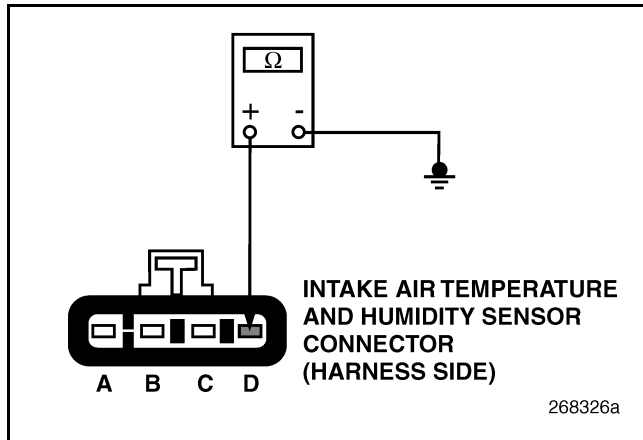

Figure 311
4. Check for continuity between pin D of the IATH Sensor harness connector and a good ground (see Figure 311).